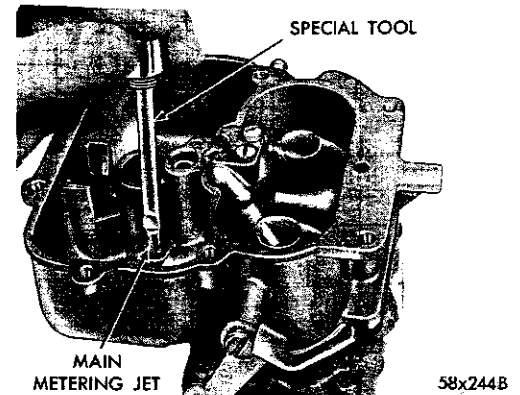

Fig. 24—Removing the Main Metering Jet
(9) Remove the main metering jets and gaskets, as shown in Figure 24.
(6) Install the main metering jets and gaskets. Tighten securely. (Fig. 24).